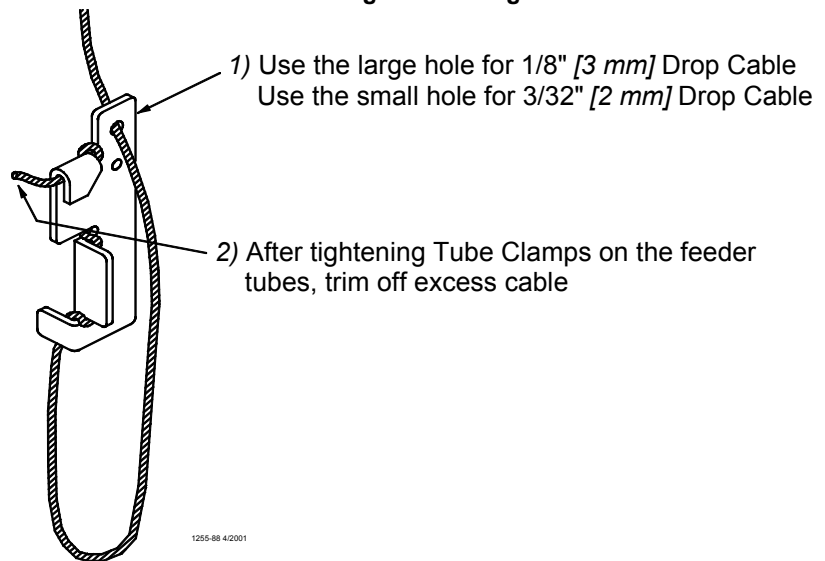

Figure 45. Cable Lock Threading
6. Install Adjustment Leveler within 6" [152 mm] of feeder line. **Figure 45** shows the proper cable routing around the Adjustment Leveler.
Finally, tighten the Tube Clamps on the feeder tubes. Clamp the joints securely, but do not crush the tubes. Re-adjust all Adjustment Levelers as needed and trim off excess cable as shown in **Figure 45**.